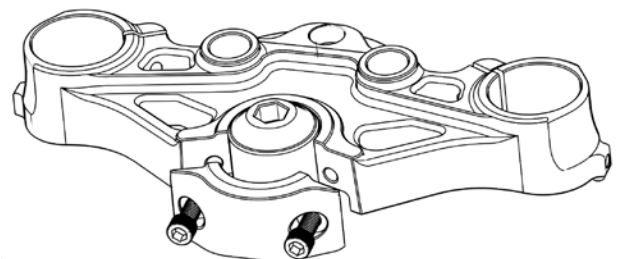

Fig. 8
13. Install top nut clamp onto top tree. Tighten screws until lightly seated, so fall away can be set later. **(See fig. 8)**